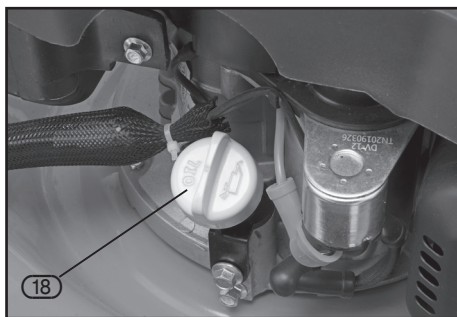

FIG. 13
8.7 FILLING WITH OIL AND CHECKING THE OIL LEVEL – FIGS. 13–14